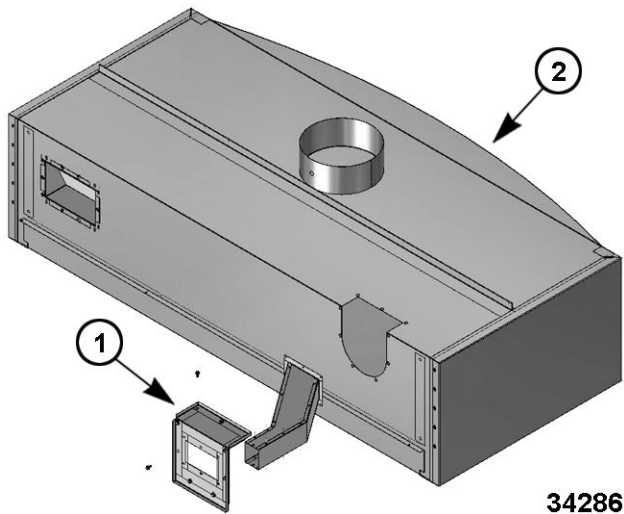

Fig. 116
- Install exhaust connection plate (1, Fig. 116) to hood assembly (2, Fig. 116).